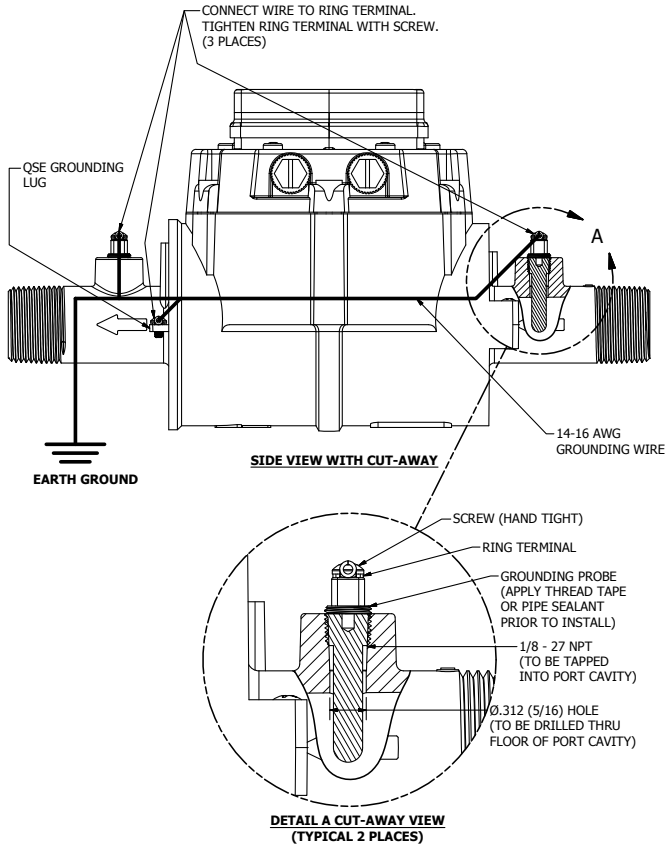

Figure 1
3. Ground process fluid to meter ground lug. (Customer responsibility.) Various process fluid grounding examples are shown on the following pages (*see Figures 1, 2, 3, and 4*) to assist you in completing this item. The examples cover various meter installation situations.